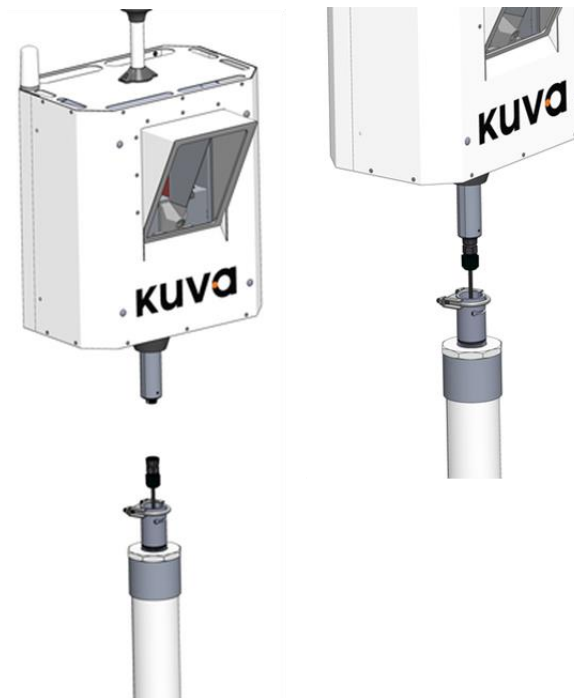

Figure 72 Utility pole ethernet connection
9. Connect the Ethernet cable to the GCI360 Ethernet port at the base of the camera post, via the RJ45 connection as per Figure 72. The supplied power cable has a circular threaded retention mechanism that must be screwed down by hand to secure the power cable to the camera. Turn the ethernet cable locknut counterclockwise slowly until there is a click as the opening of the threads pass each other. Then tighten clockwise gently until the threads are engaged. Ensure the male connection on the camera post is not rotating when tightening the female end of the cable to the camera.